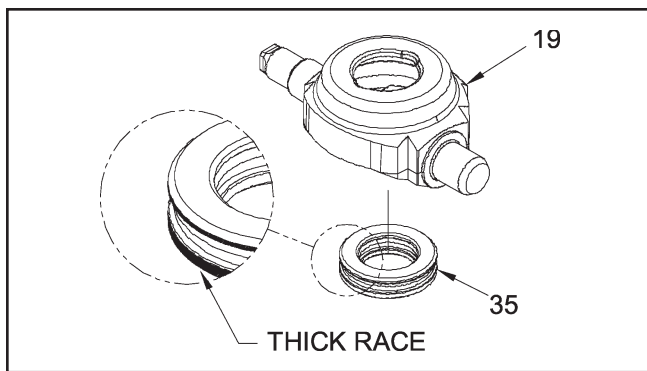

Figure 19.
11. **(See Figure 19)** Remove the thrust bearing
11. (See **Figure 19**) Install the pump thrust bearing (35) in the trunnion machined swashplate (19). NOTE: Place the thin race of the bearing towards the swashplate. The thick race must face the pistons.